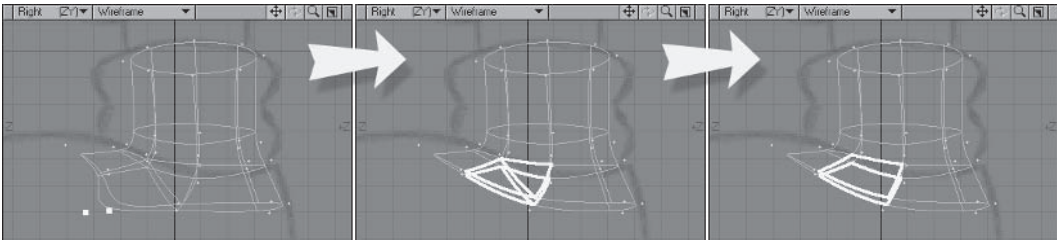

Figure 5.5-41. Cleaning up the base of the socks.
- Delete the points shown in Figure 5.5-41 and **Merge** the triangles.